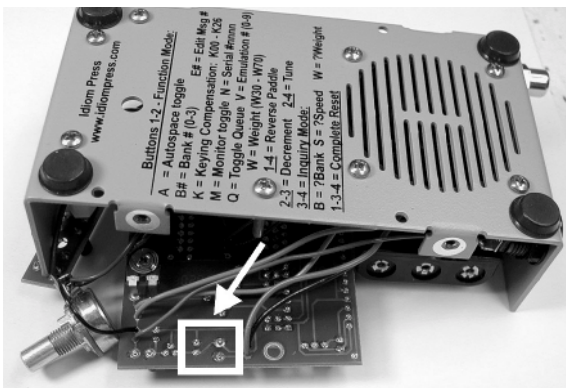

Figure 1
- 7) Turn the keyer over and slide the keyer PC board out slightly from the case (see Figure 1 on the following page).